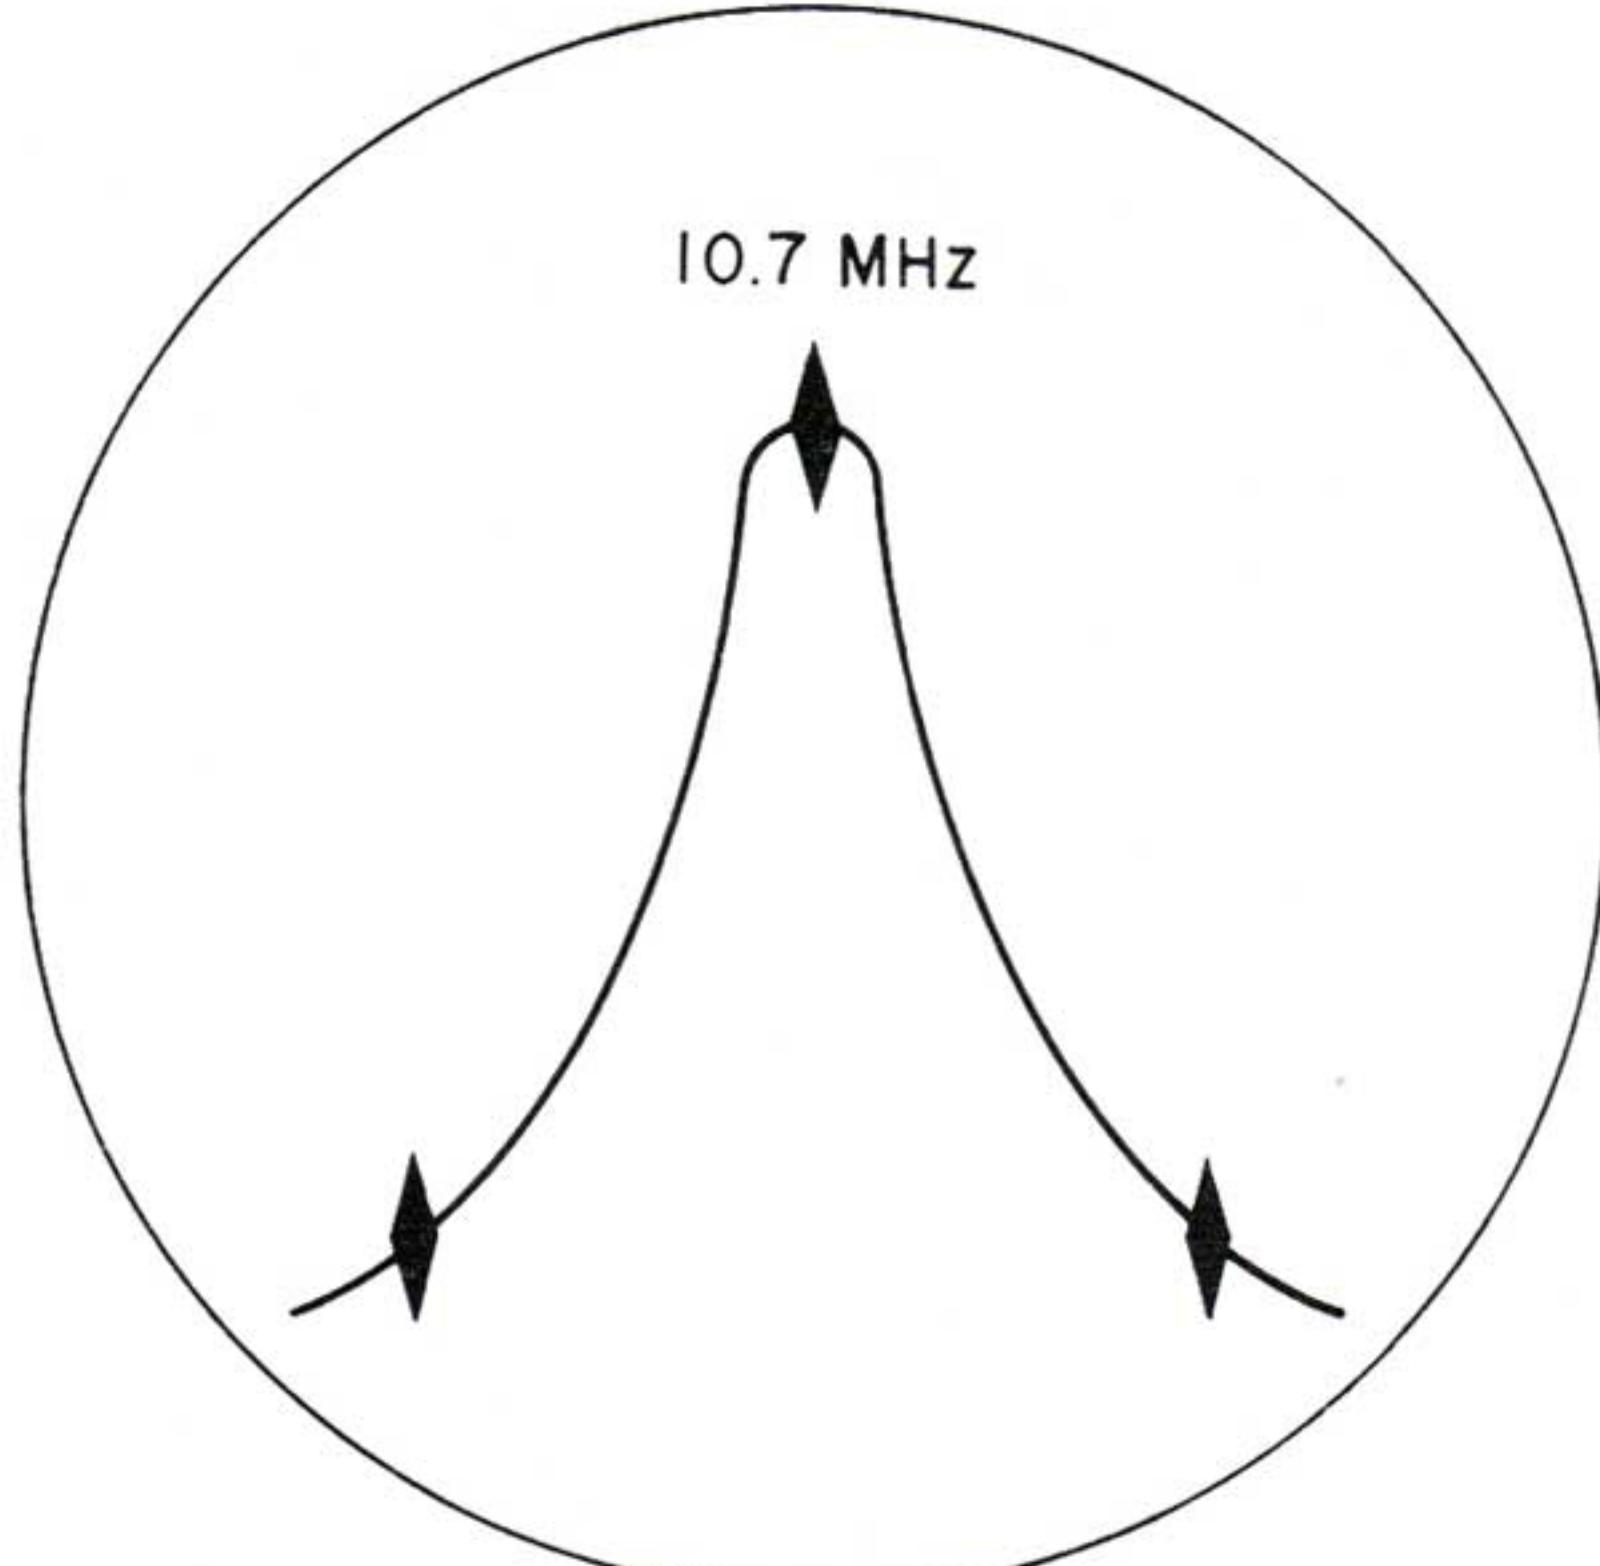

Fig. 2
- Adjust the upper and lower cores of T-201, T-202, T-203, T-205 and bottom core of T-204 to obtain the waveform as shown in Fig. 2. Adjust to as maximum an amplitude as possible.